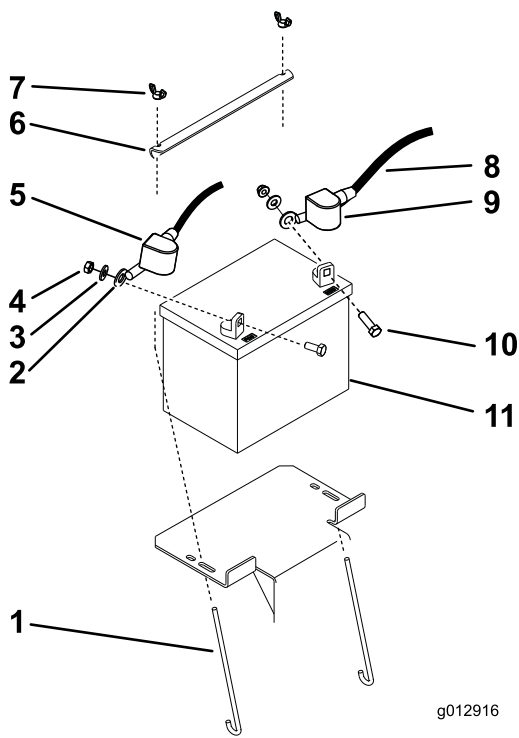

Figure 38
3. Lift the black rubber cover on the negative cable, and disconnect the negative battery cable from the negative (-) battery terminal (Figure 38).
4. Slide the red terminal boot off the positive (red) battery terminal, and remove the positive (red) battery cable (Figure 38).
5. Remove the battery hold-down plate (Figure 38) and remove the battery.
1. Place the battery onto the machine (Figure 38).
3. Install the positive (red) battery cable to positive (+) battery terminal with a nut, a washer, and a bolt (Figure 38).
5. Then install the negative battery cable and ground wire to the negative (-) battery terminal with a nut, a washer, and a bolt (Figure 38).